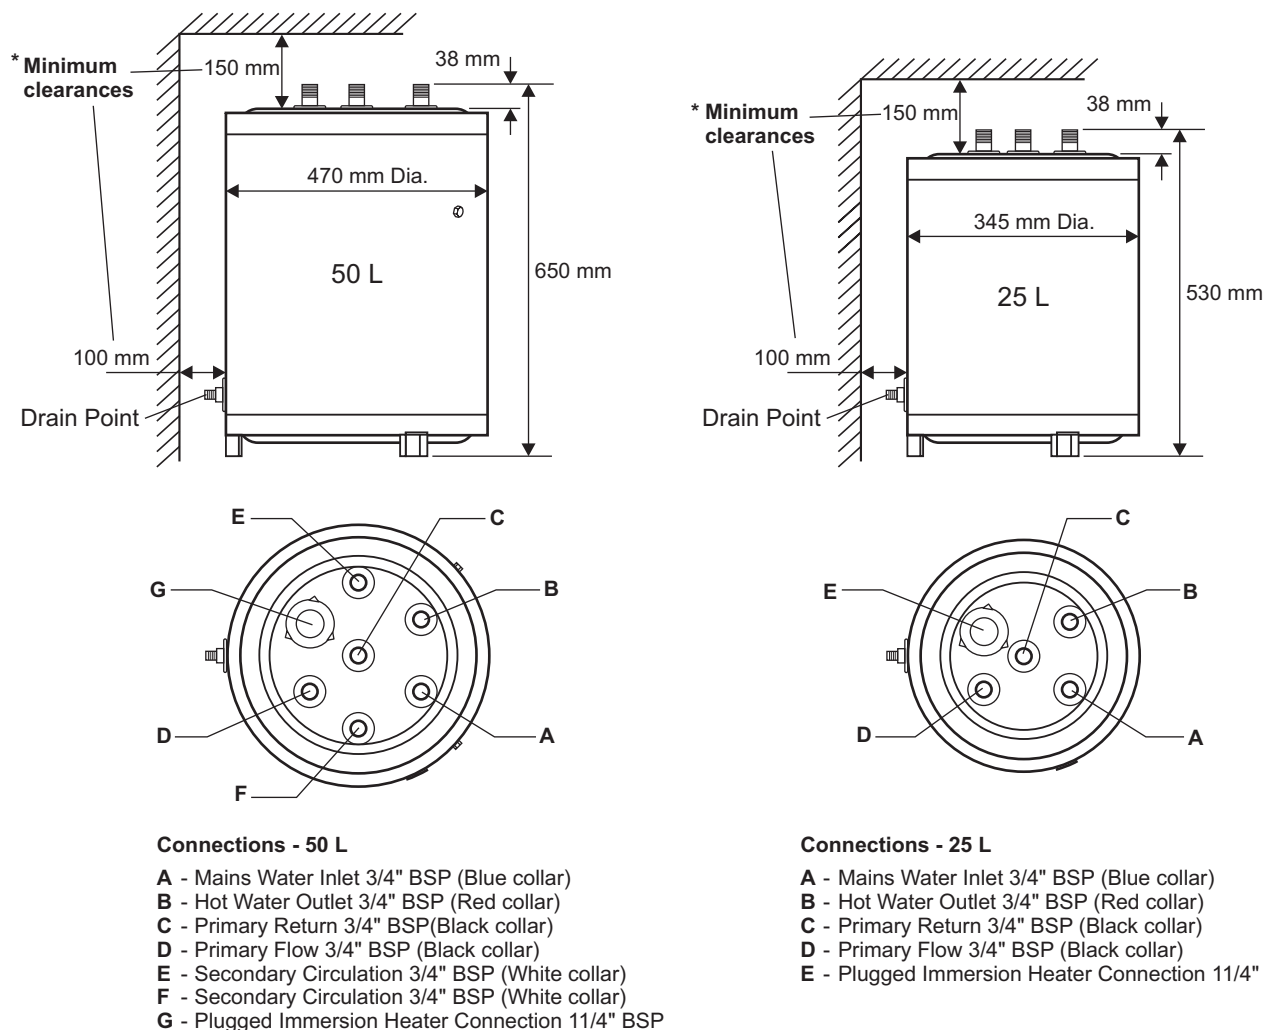

Fig. 1
1. Locate the primary store as close to the boiler as possible ensuring there are the minimum clearances available as given in Section 2.5 and shown in Fig. 1.
2. Connect the pipework - Refer to Figs. 1 and 4 or 5.